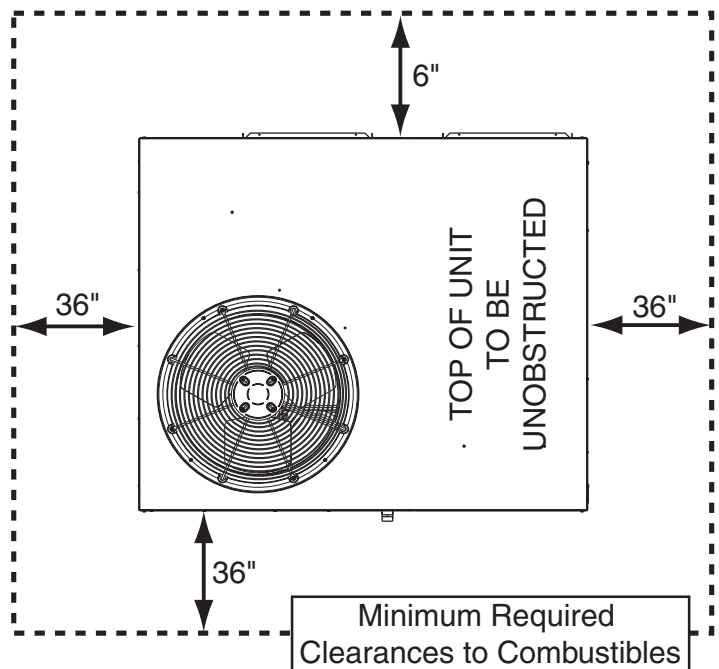

Figure 1. Clearance Requirements
- Provide adequate clearances around the combustion air intake louvers. See Figure 1 \(page 5\).
- Sufficient clearance for unobstructed airflow through the louvered control access panel and outdoor coil must be maintained in order to achieve rated performance. See Figure 1 for minimum clearance requirements.